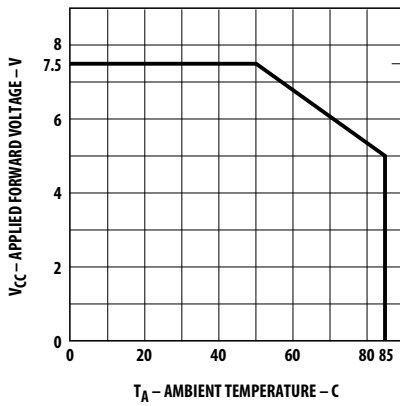

Figure 3. Maximum allowed applied forward voltage vs. ambient temperature  $R\theta_{JA} = 175^\circ\text{C}/\text{W}$ . 5 volt devices.
- Derate from TA = 50°C at 0.071 V/°C, see Figure 3.